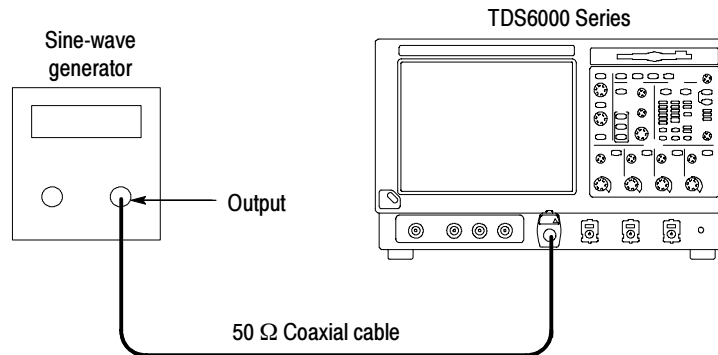

Figure 4-21: Initial test hookup
- b. *Hook up the test-signal source:* Connect, through a 50 Ω precision coaxial cable, the output of the sine wave generator to **CH 1** input through an adapter (see Figure 4-21).